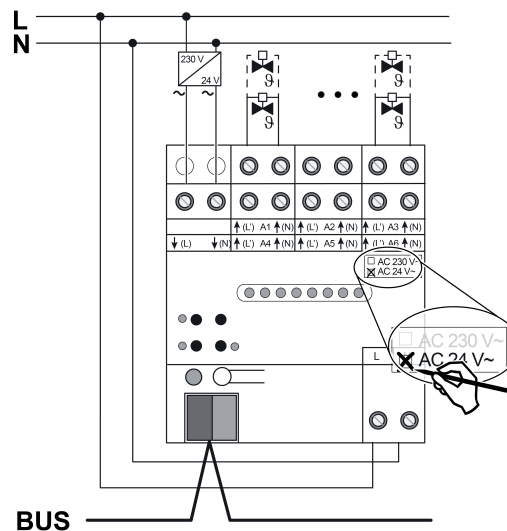

Figure 4: Connection of actuators 24 V
- Connect the AC 24 V valve drives according to the connection diagram (figure 4).
- Connect the supply for the valve drives to the terminals ↓(L) and ↓(N) (1).
- Connecting the mains voltage to the terminals (5).